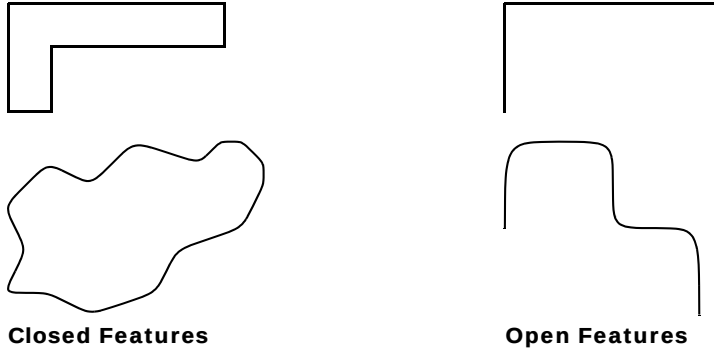

Figure 144 Features Rich in Curvature Variations
- When possible, it is preferable to use features that individually define a complete Scale/Rotation/Translation transform. Examples of such features are shown in Figure 144.